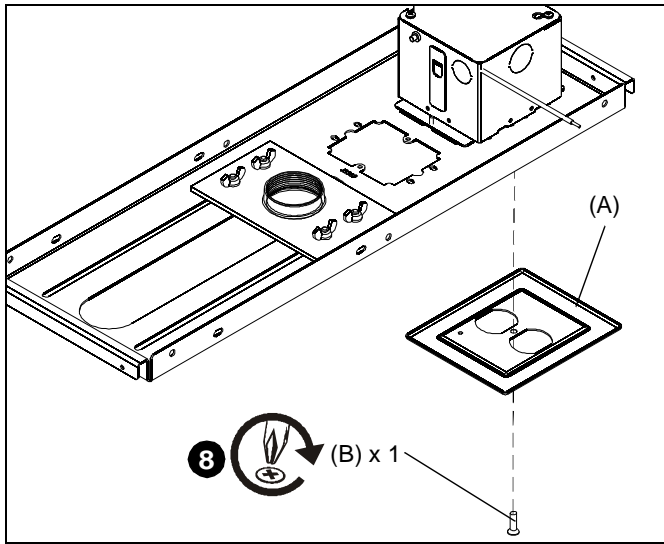

Figure 5
- Attach face plate (A) using one 6-32 x 1/2" Phillips flat head screw (B) after the CMS440N has been installed. (See Figure 5)